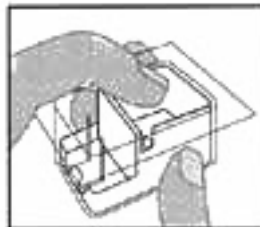

Figure 7-1
3. Being careful not to touch the studs, flip the plastic mount up with the index finger enough to grasp the sides of the mount with the thumb and middle finger (Figures 7-1 & 7-2). Lift the mount out of the sterile container.